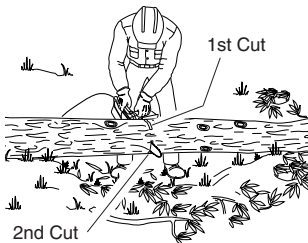

Figure 16 - Bucking Log When Log Is Supported On Both Ends
1. Make first cut from above log (see Figure 16). Cut 1/3 through diameter of log. This cut will keep section from splintering when cut.